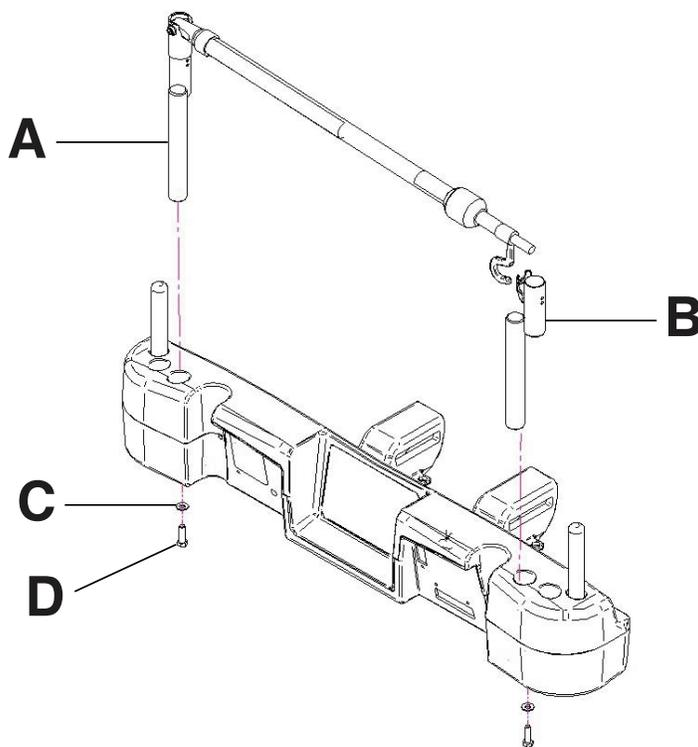

Figure 119: Single two stage IV pole (Left side shown)
1. Using a 3/8 in. drive ratchet and a 1/2 in. socket, install one washer (C) and one bolt (D) to secure the IV pole to the socket at the head end of the product (A) (Figure 119 on page 103).
2. Using a 3/8 in. drive ratchet and a 1/2 in. socket, install one washer (C) and one bolt (D) to secure the IV pole support into the socket at the head end of the product (B) (Figure 119 on page 103).